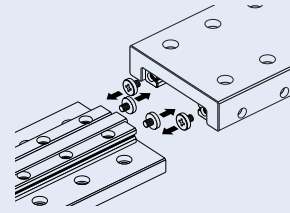

Fig. 17.1
- Remove end screws from the way at table side and way at the bed-side in the side to which the cylindrical rollers with a retainer are inserted. (See Fig.17.1)